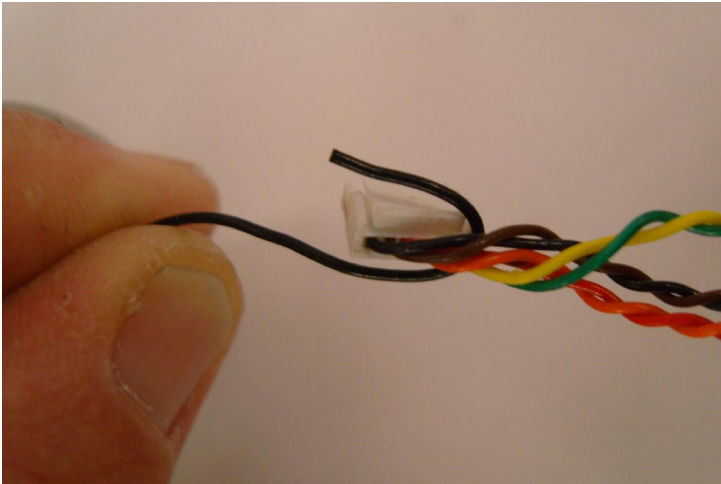

Fig. 5
6. Shape the gripper wire with a bend just outside the connector and make a hook with the black pull wire. (Fig. 5)